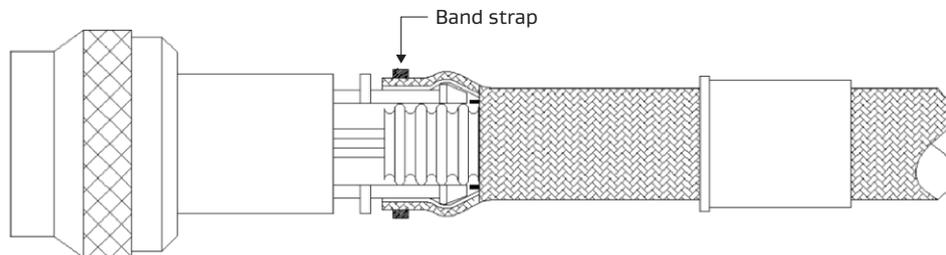

Figure 13: Sliding the band strap
- Slide the band strap to the approximate location on the outer braided jacket (Figure 13). Using the banding tool, band down the strap.